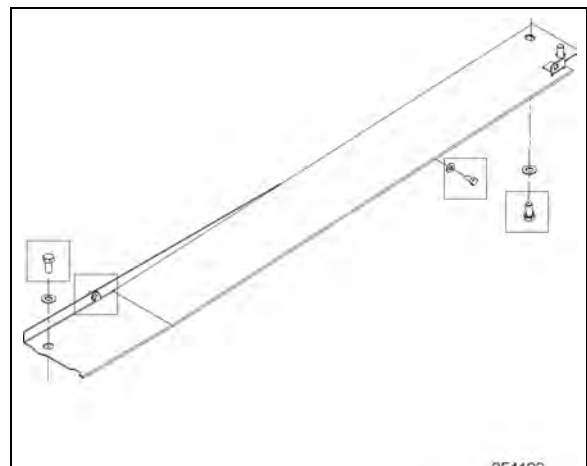

FIGURE 36: PROTECTIVE PLATE MOUNTING BOLTS
15. Remove the protective (splash) plate fixed to the cooling pack lower support (Figure 36).